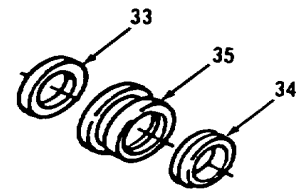

Figure 8-10.
8. Remove screw (26), seat (27), preformed packings (28 and 29), ball (30) and retainer (31) from pump body (32). Discard preformed packings (27 and 29).
9. Remove seals (33 and 34) from bushing (35, Figure 8-10). Discard seals (33 and 34).
1. Install new seals (34 and 33) on bushing (35), Figure 8-10).